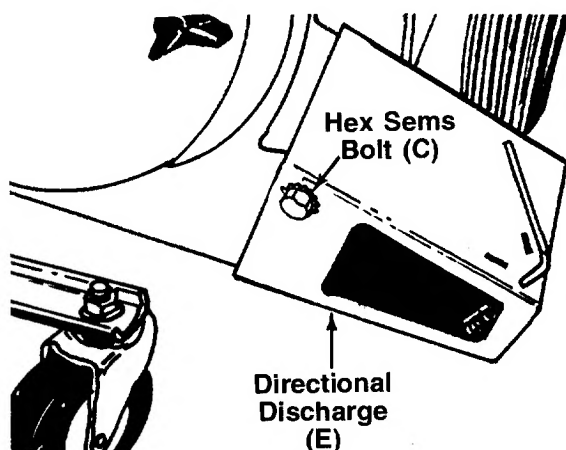

FIGURE 4.
Slip end of directional discharge (E) over chute opening. Secure in position with hex sems bolt (C). See figure 4.